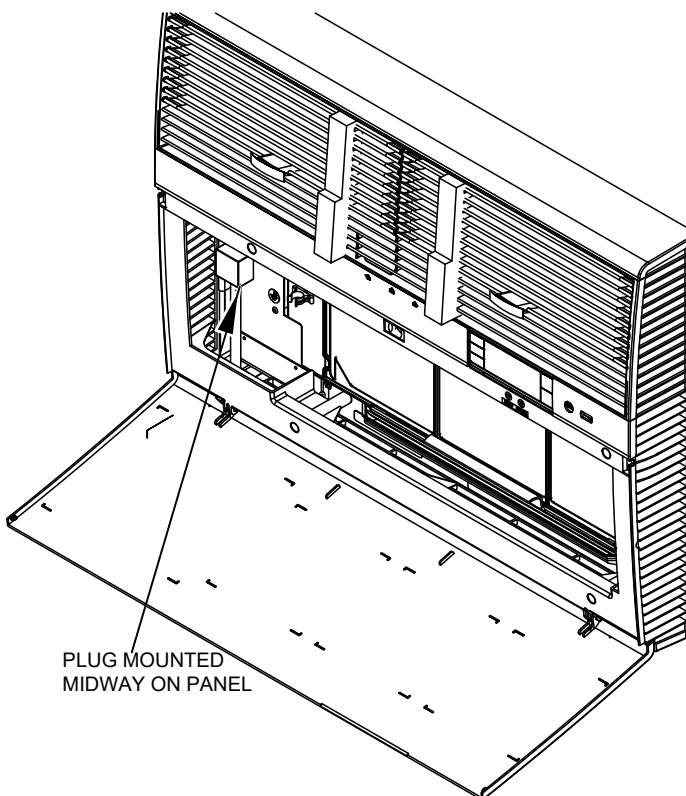

Figure 404
The 30 Amp power Cord installation is shown in Figure 404. If your unit plug is in this configuration, you do not need to rotate plug in order to change the routing. You can skip to step 5.
1. Swing the door open, See Figure 404, and remove the filter by grasping the filter grip and pushing the filter holder upward and outward. See Figure 416.